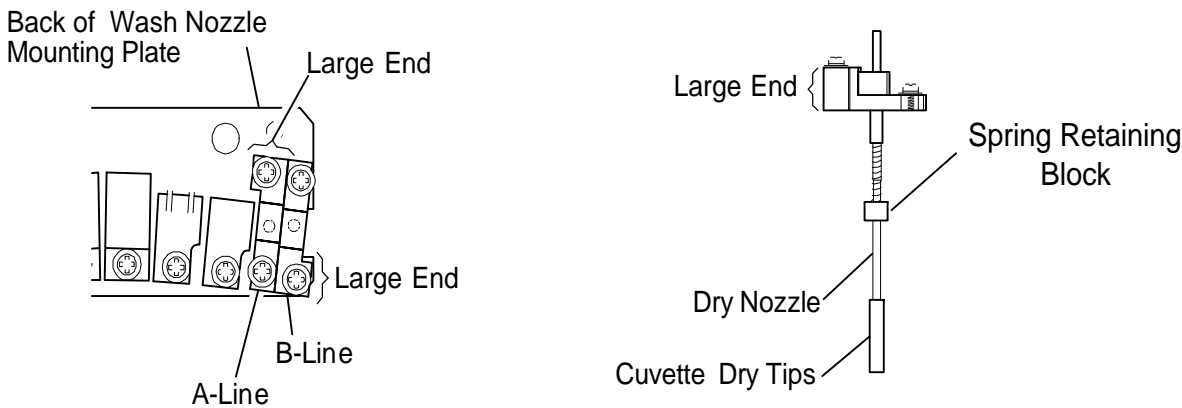

Figure 2. Orientation of new style Dry Nozzles on the Wash Nozzle Mounting Plate.
- 9. Install the new style Dry Nozzles included in the ISA Kit on the new Wash Nozzle Mounting Plate (Figure 2).